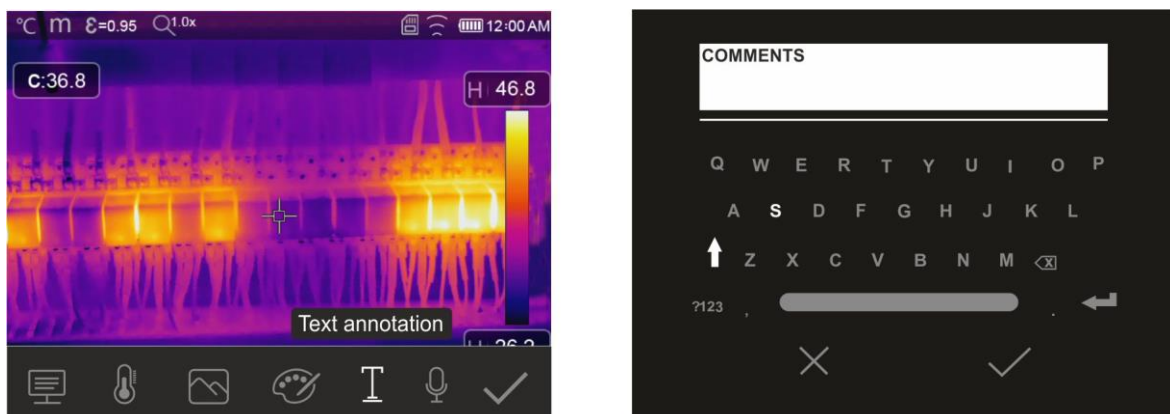

Fig. 49: Adding a text annotation to the image
4. Touch the icon “📄” to add a text annotation to the image. The screen in Fig. 49 – right side appears on the display.